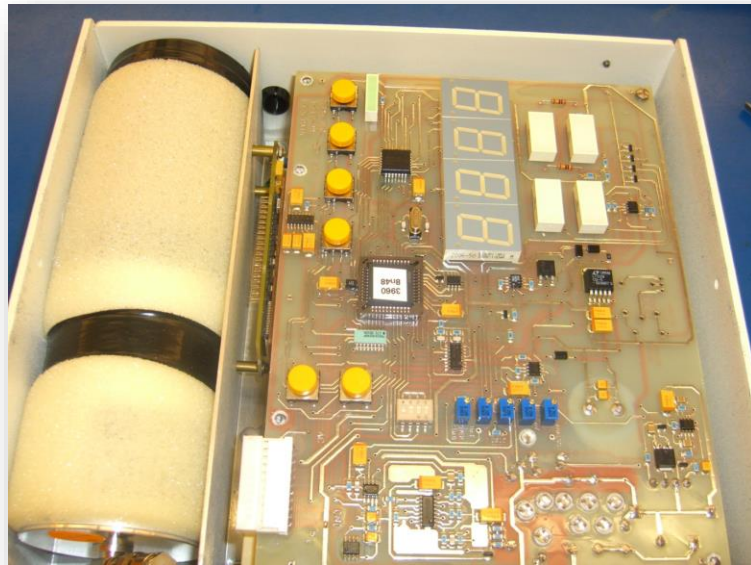

Figure 48 – Outer Case Removal
1. Remove the outer case from the area monitor. See Figure 48.